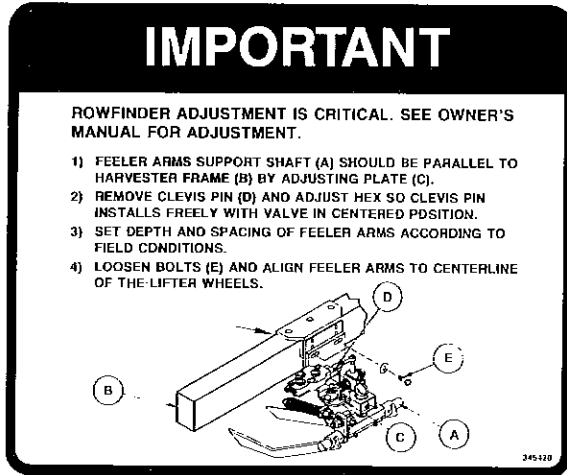

FIGURE 42 - ROW FINDER HEIGHT ADJUSTMENT
The feeler arms must be centered with the gap between the lifter wheels to function accurately. Do this by loosening bolts (A) and sliding the entire assembly in the mounting slots until centered. Tighten bolts (see figure 42).
To change the height of the row finder more than 1", remove the four (4) hex bolts (A) attaching the row finder assembly to the support plate. Bolt the row finder to the holes which provide the desired operating height (see figure 42).